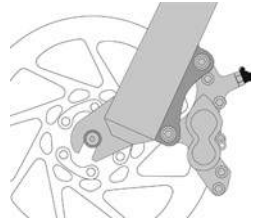

fig. 4-5
1. If your bike has rim brakes, disengage the brake's quick-release mechanism to increase the clearance between the tire and the brake pads (See "Brakes" on page 30, fig. 4-5 through fig. 4-9).
2. If your bike has rim brakes, disengage the brake's quick-release mechanism to increase the clearance between the wheel rim and the brake pads (see "Brakes" on page 30, fig. 4-5 through fig. 4-9).
- ▶ Some bicycle brakes, such as disc brakes (fig. 4-5) and linear-